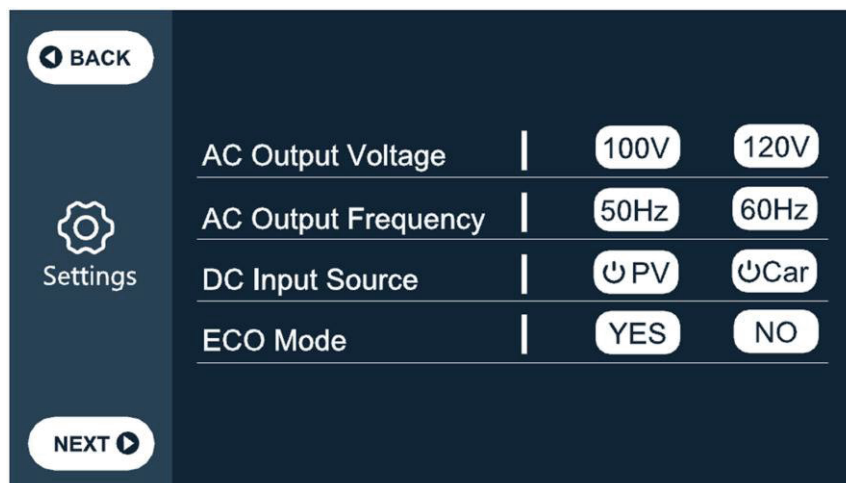

Figure 2
(2) Click the settings button in the main interface (Figure 2) to enter the setting interface as follows (Figure 3) :
(3) Charging mode 3: From the car lighter port
- Enter the setting interface as shown in (Figure2) through the display screen to set DC input source to car mode; The product can be charged with 8.2A maximum current.
(4) Charging Mode 4: From a generator (gasoline, propane or diesel)